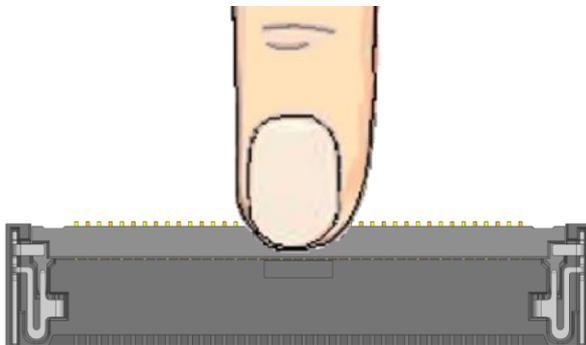

Fig 5. Apply force at the center of Push Button
36. When operating the push button, gently press the center of the push button so that even force is applied across the push button it carefully. (See Fig.5)